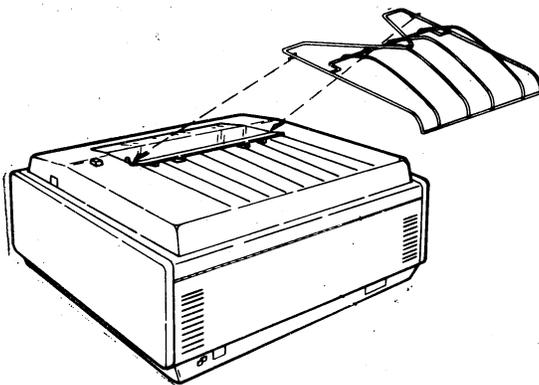

Fig. 16—Paper Guide
3.15 Close cover and snap paper guide into position on 40CAB351 type, 40CAB353 type or 40CAB371 type printer cabinets (Fig. 16).